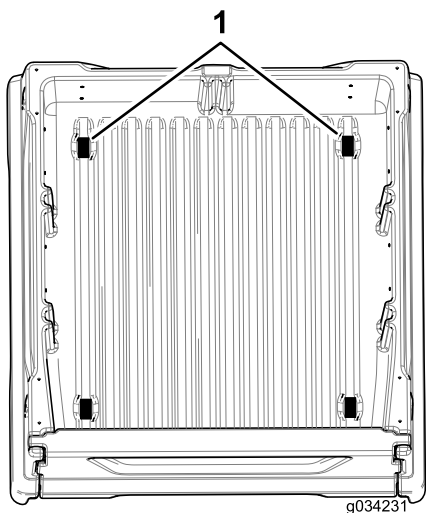
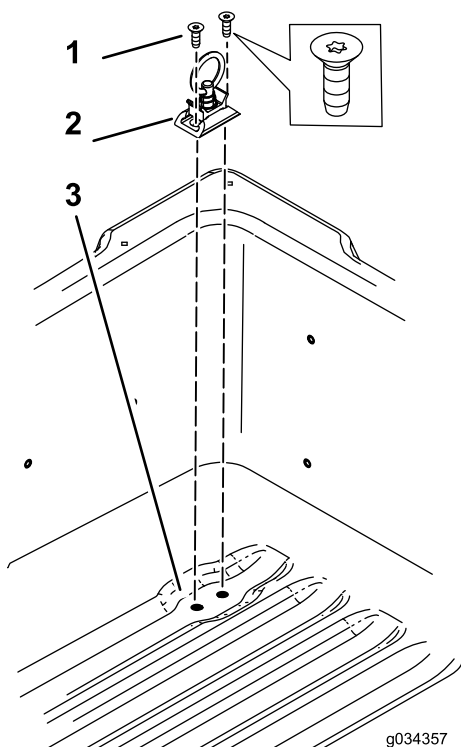

Figure 5
Figure 6
1. Attach the bracket in the locations shown in Figure 5 using 2 screws (Figure 6).